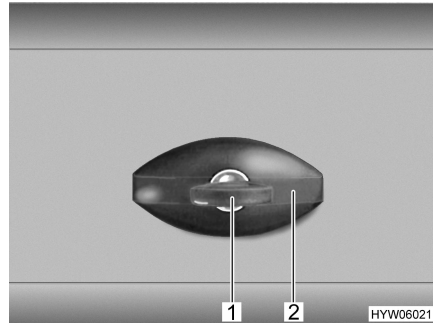

Fig. 14 Flap lock, elliptical-shaped, closed
- Insert key into locking cylinder (Fig. 14,1) and turn a quarter turn in an anti-clockwise direction. The lock handle (Fig. 14,2) snaps out.